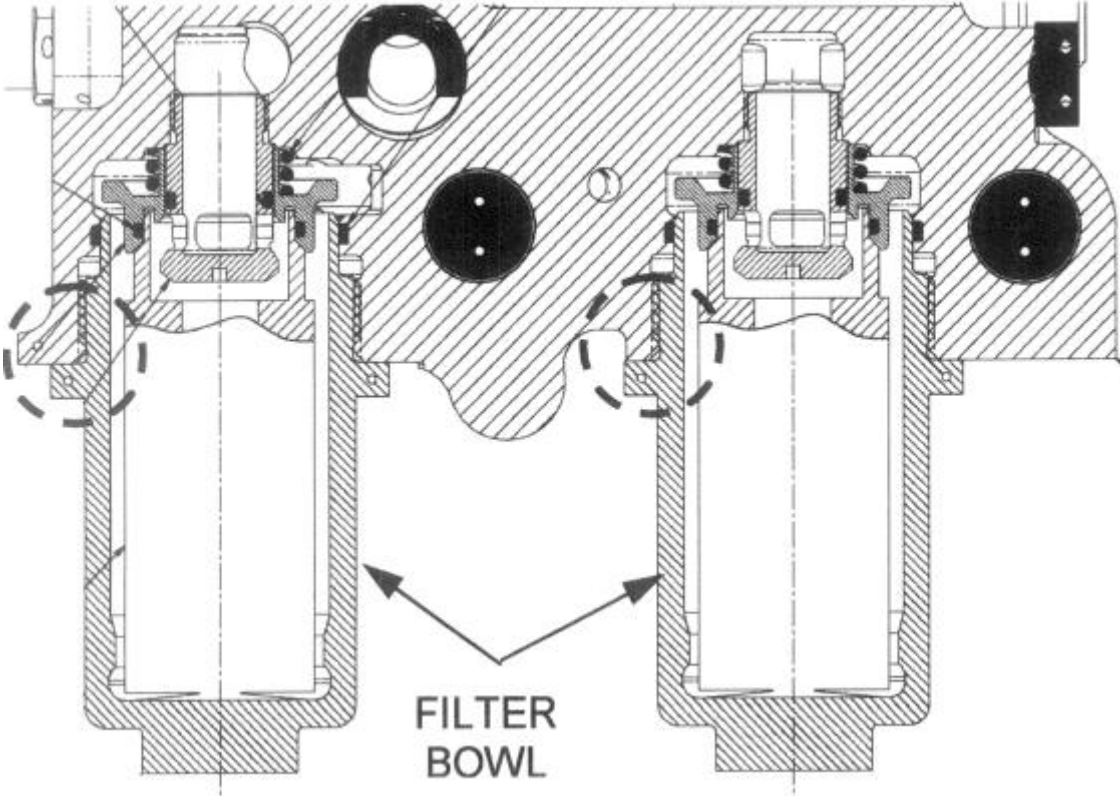

FIGURE 1
4. Lubricate the packing with MIL-H-87257 and carefully install it in the under cut area of both pressure and return filter bowls as shown in figure 1. Verify the packing is flat against the flange.